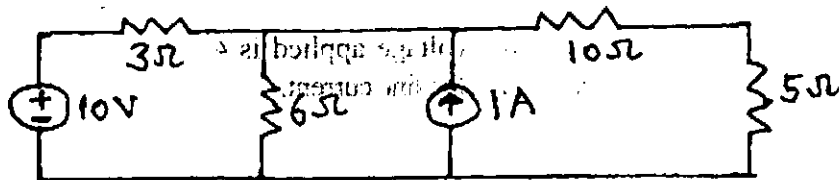

Fig. 2
- b) Find the current in the 5Ω resistor for the circuit shown in Fig. 2. Use Norton's theorem.